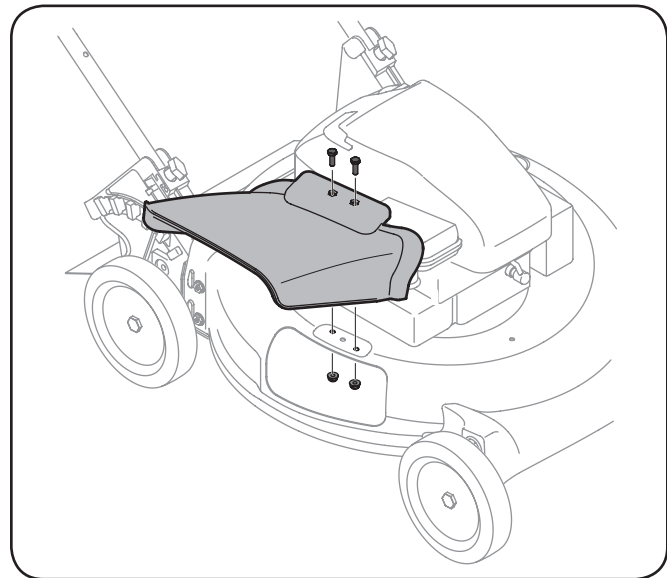

Figure 3-7
1. Align the holes on the chute deflector with the corresponding holes on the deck surface. See Fig. 3-7.